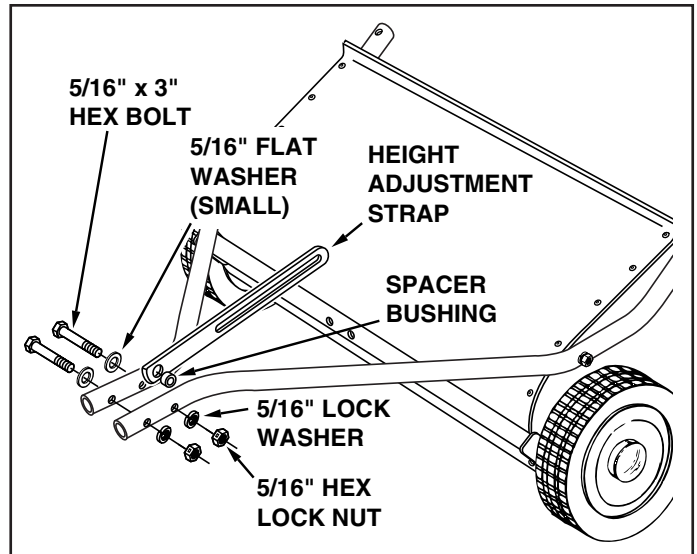

FIGURE 2
3. Place the spacer bushing into the hole in the height adjustment strap. Place the strap with the bushing between the hitch tubes, aligned with the rear hole. Fasten the hitch tubes together, with the strap and bushing between them, using two 5/16" x 3" hex bolts, 5/16" flat washers (smaller), 5/16" lock washers and 5/16" hex lock nuts. **Do not tighten yet.** See figure 2.